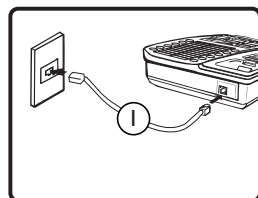

Figure 2
1. Plug one end of the long flat telephone line cord into the jack marked LINE located on the back of the telephone. Plug the other end into the telephone wall jack. See Figure 2